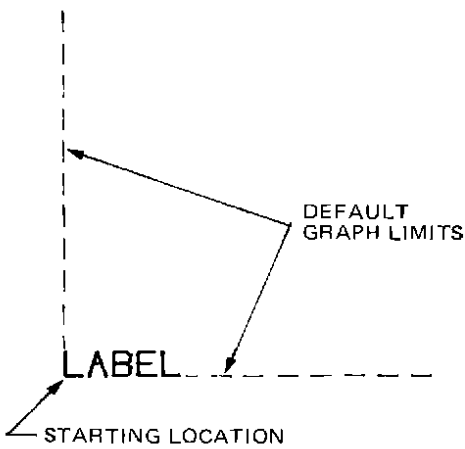

Figure 5-3. Labeling with Default Specifications
**Result** (Refer to Figure 5-3)